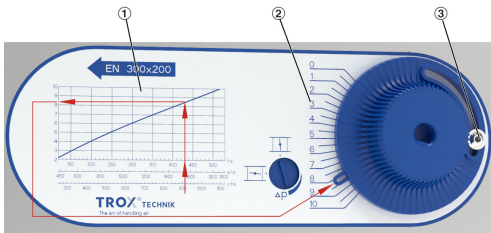

Fig. 7: Setting the volume flow rate
1. ▶ Using the volume flow rate scale (Fig. 7/1), determine the setting value (1-10) for the desired volume flow rate (l/s, m³/h, or cfm).
2. ▶ Loosen the hexagon socket screw (Fig. 7/3).
3. ▶ Set the rotary knob to the determined value of the setting scale (Fig. 7/2) and fix it with the hexagon socket screw (Fig. 7/3).